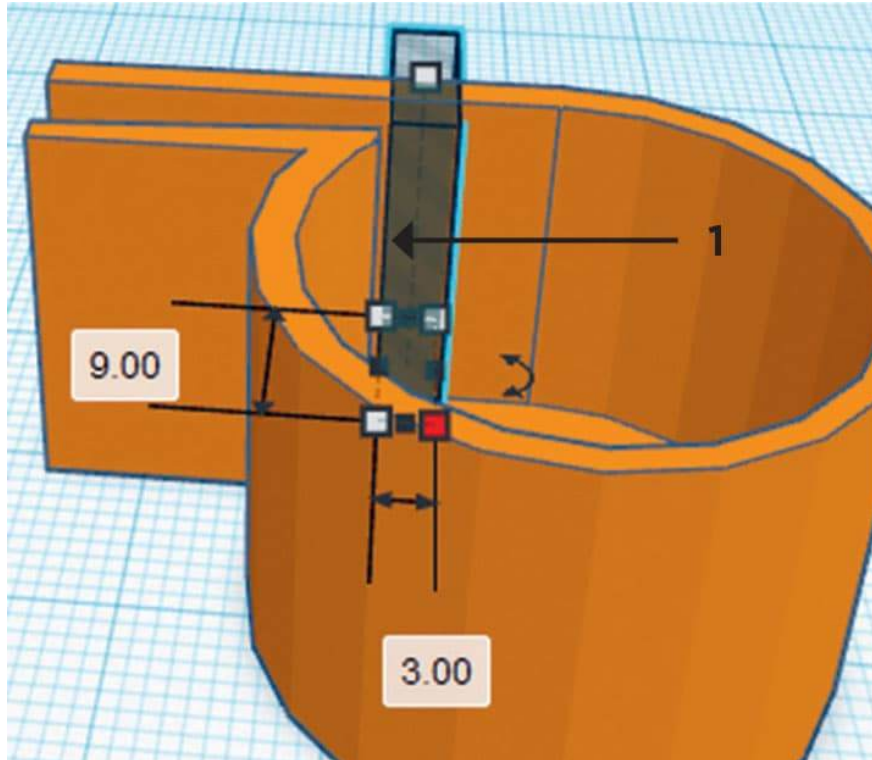

FIG. 5: Create and align a sound hole for the whistle.
4. Create the whistle sound hole. First, we will create a hole at the top of the whistle. Use the **Box** tool to make a box hole that is 3 mm wide and 18 mm high (fig. 5). Move it so it is about in line with the broader end of the wedge from the mouthpiece hole (arrow 1). Move it so that it is 2 mm above the workplane. Group it with the whistle body.